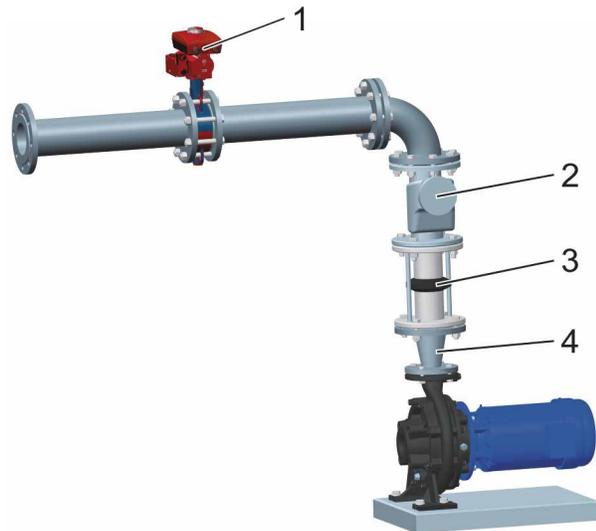

Fig. 35 Layout of the pressure side (example: herborner.F-N)
3. If the pump's flange is smaller than the pipe, place a reducing adapter in the connection between the pipe and the flange. (Fig. 35(4).
4. Install a gate valve at an easily accessible location upstream of the pump (Fig. 35(1).
5. If necessary, also fit a non-return valve to avoid surges (Fig. 35(2).
6. If necessary, fit a compensator at a distance of 1 to 1.5 times the pipe's diameter downstream of the pump's connection flange to reduce vibrations (Fig. 35(3).
3. Connect the phase lines (L1 – L3) of the building power supply according to the wiring diagram in the terminal box or printed on the block motor (Fig. 35/2) to terminals U1, V1 and W1 of the block motor.
4. Connect the temperature monitor with the additional connection cables (1 and 2) according to the wiring diagram printed in the terminal box or on the block motor (Fig. 35/2) using a terminal strip.